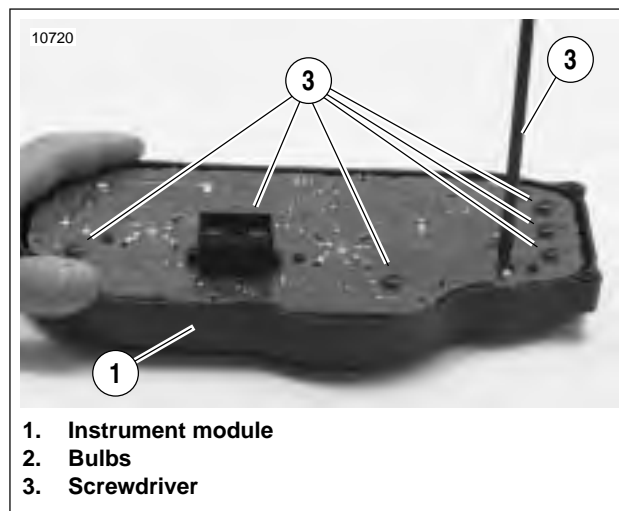

Figure 7-67. Bulb Replacement for Instrument Module
3. See Figure 7-67. Insert screwdriver blade into the slot on the back of the bulb to be replaced and lightly turn counterclockwise and remove bulb.